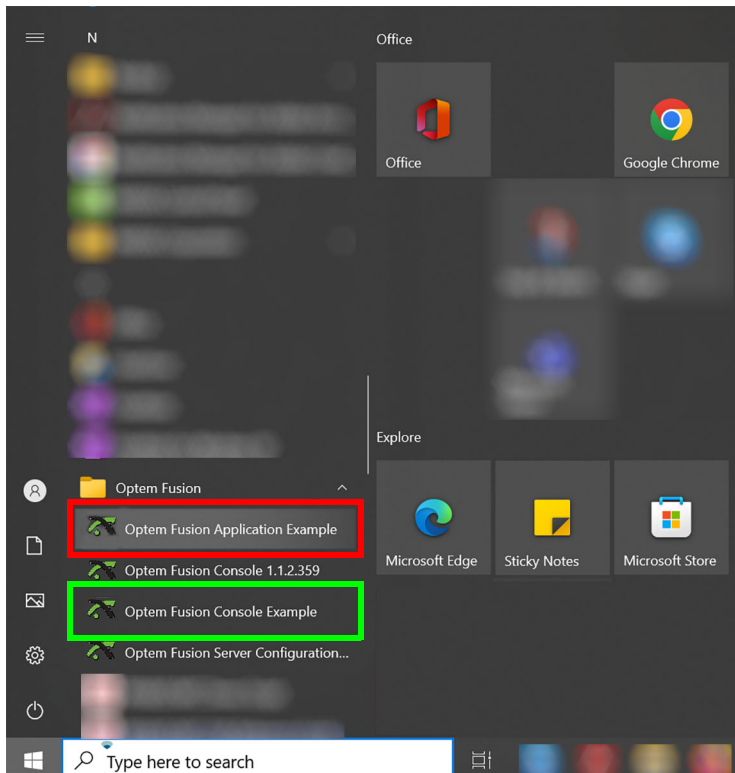

Figure 48 Start menu – Optem® FUSION C# Test Examples
- Optem Fusion Application Example (outlined in red in Figure 48), or
- Optem Fusion Console Example (outlined in green in Figure 48)